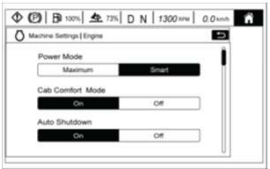

Fig. 6
6. To work while optimizing fuel consumption and operational efficiency, it is recommended to select the "Smart" mode (fig. 6). This mode allows operation at lower engine speeds without compromising pushing performance. It is particularly suitable for handling loose and dry material. For moving more resistant materials, you can switch to the "Maximum" mode.